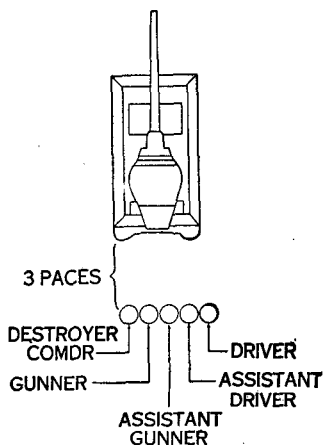

Figure 1. Dismounted posts.
5. **FORMATIONS.** a. **Dismounted posts.** The crew forms in one rank. The destroyer commander places himself three paces to front (or rear) of right track of vehicle, facing to the front. The others form at double time in line at close interval on the commander's left in the following order, right to left: gunner, assistant gunner, assistant driver, and driver. (See figs. 1 and 2.)
6. TO FORM CREW. a. **Crew being dismounted.** At the command **IN FRONT, FALL IN**, the crew takes dismounted posts in front of the destroyer. (See par. 5a and fig. 1.) At the command **IN REAR, FALL IN**, the crew takes dismounted posts in rear of the destroyer. (See par. 5a and fig. 2.) In falling in, crew members dress automatically on the destroyer commander at close interval and then come to attention without command.
8. TO MOUNT. a. The crew, being at dismounted posts in front of the destroyer (fig. 1), mounts as follows: